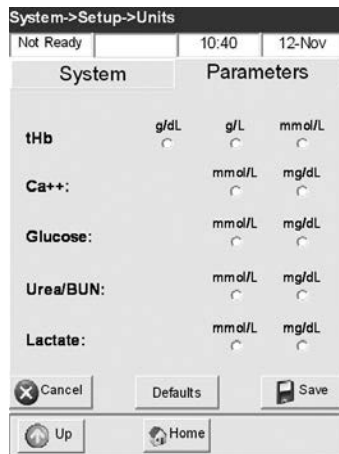

Fig. 3-30 Select Units
5. Press the **<Parameters>** tab to go to the next screen (Fig. 3-30), and select the units for the remaining parameters.